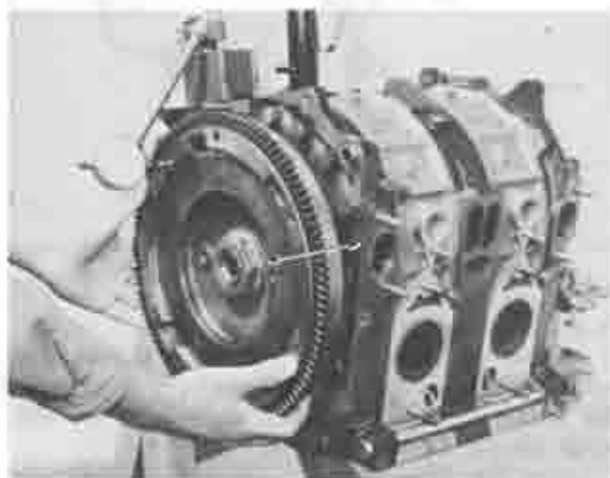

Fig. 1-83 Checking eccentric shaft end play
13. To check the eccentric shaft end play, position a dial indicator on the rear housing so as to contact the feeler with the flywheel or the counter weight as shown in Fig.1-83. Move the flywheel fore and aft, and note the reading of the indicator. The standard end play is 0.04 ~ 0.07 mm (0.0016 ~ 0.0028 in).